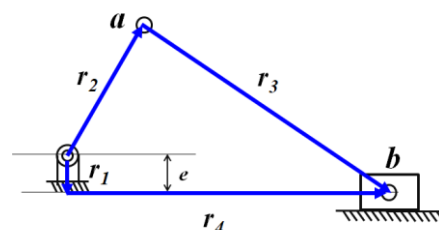

Fig. 2 An offset crank-slider
2. Fig. 2 show an offset crank-slider. For the mechanism, if $e=50\text{cm}$, $r_2=200\text{cm}$, $r_3=400\text{cm}$, (a) Max. transmission angle and Min. transmission angle, (b) The stroke of this offset crank-slider. (15%)